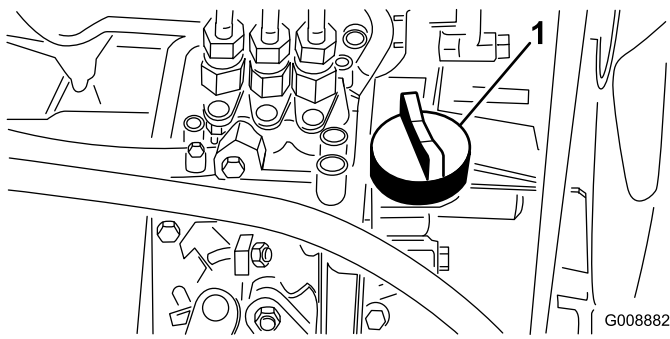

Figure 25
4. If the oil level is low, remove the oil fill cap (Figure 25) and gradually add small quantities of oil, checking the level frequently, until the level reaches the Full mark on the dipstick.